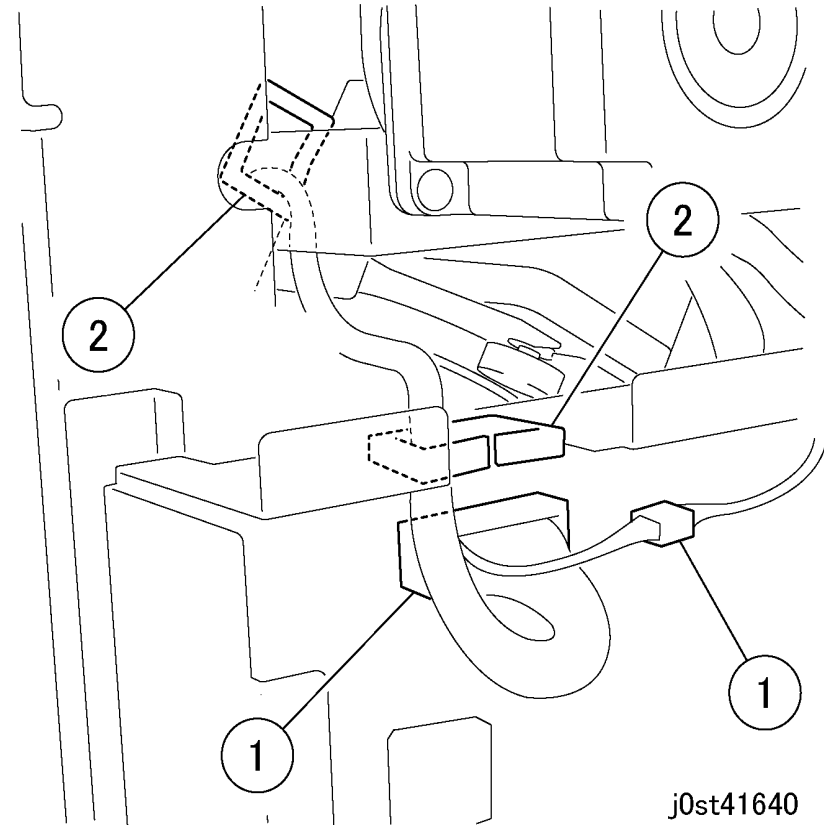

Figure 1 Disconnecting the connectors (j0st41640)
3. Release the clamp to remove the wire. (Figure 1)